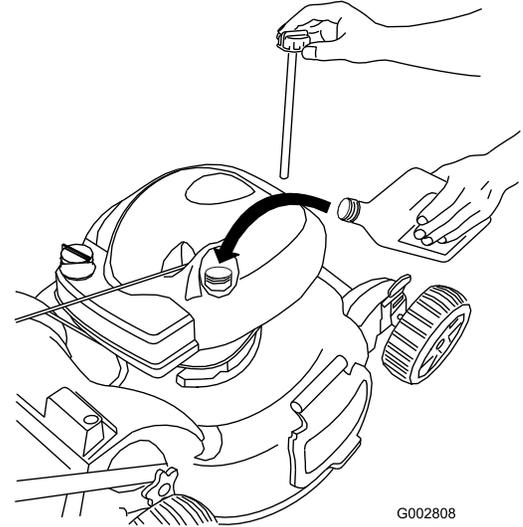

Figure 41
4. **Slowly** pour oil into the oil fill tube until the oil level reaches the **Full** line on the dipstick (Figure 41). **Do not overfill.** (Max. fill: 20 oz., type: SAE 30W detergent oil with an API service classification of SF, SG, SH, SJ, SL, or higher.)